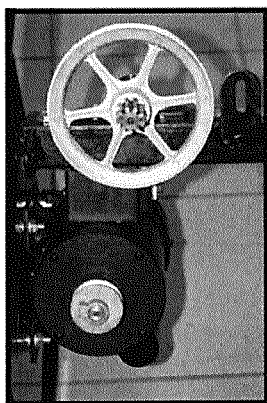

Fig.19: Correctly mounted motor and drive assembly.
5. The motor and drive assembly should be mounted onto cart as shown. (Fig. 19).